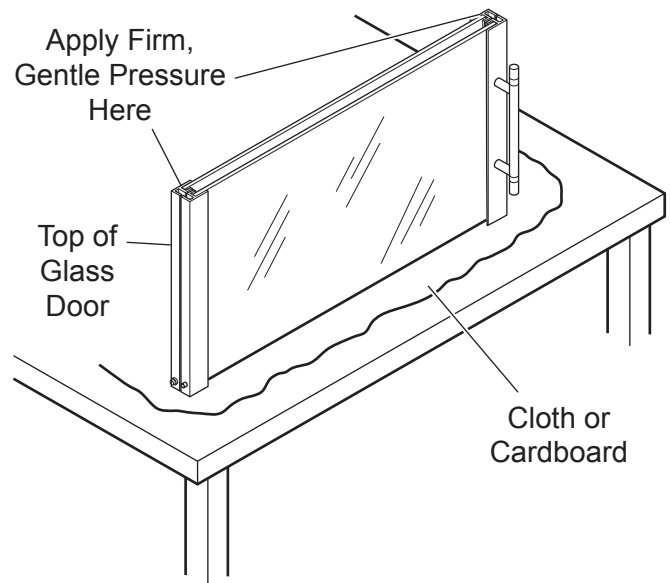

Figure 29 - Lining Up Glass Panels to Trim
6. If you find the doors are not square after you have replaced the glass panels, fold the door together with the pivot and guide pins are on the bottom next to the cloth or cardboard. The hinges are on top. With the door in this position, gently press the trim to line it up with the glass panels. See *Figure 29*.